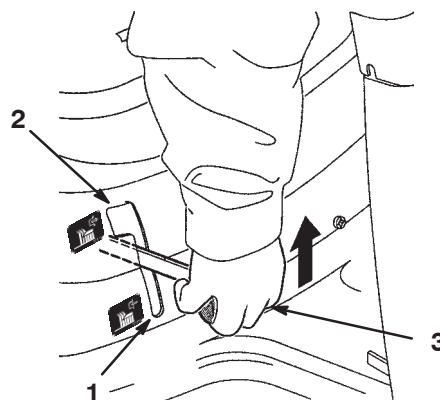

Figure 4
2. Slowly shift the blade control (PTO) to Engage (Fig. 4).
2. Shift the blade control (PTO) to Disengage (Fig. 4).